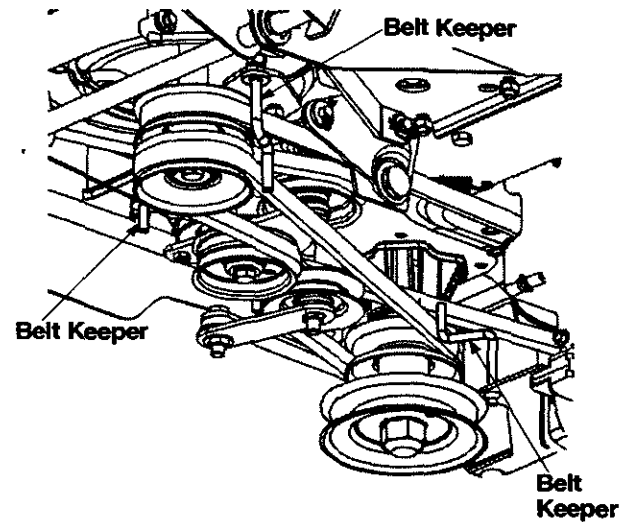

Figure 27
8. Replace the drive belt. When re-installing the belt, make sure belts are on the inside of the three belt keepers. See Figure 27.